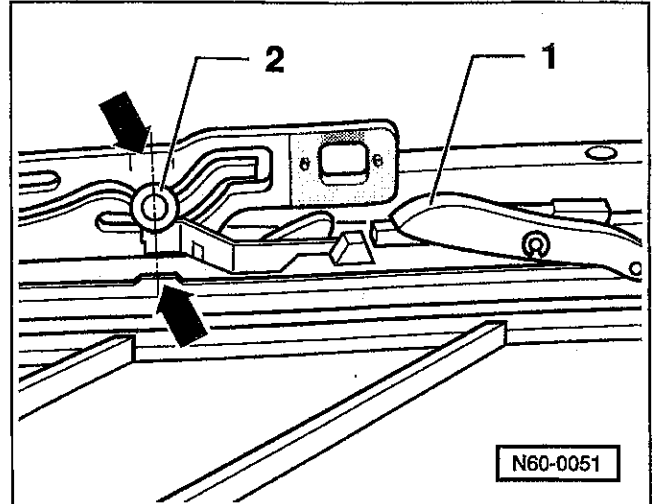

Fig. 4. Before installing sunroof panel, locating hooks (1) must be in guide rails and pins (2) must be within marks or notches (arrows).
2. Check that locating hooks and pins on both sides of carrier unit are correctly positioned. See Fig. 4.